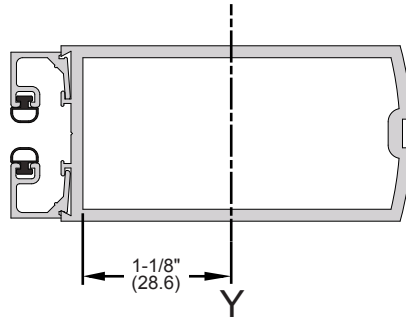

FIG. 1
2. Mark the stile centerlines 1-1/8" (28.6) from the inside edge. (**Fig. 1**)